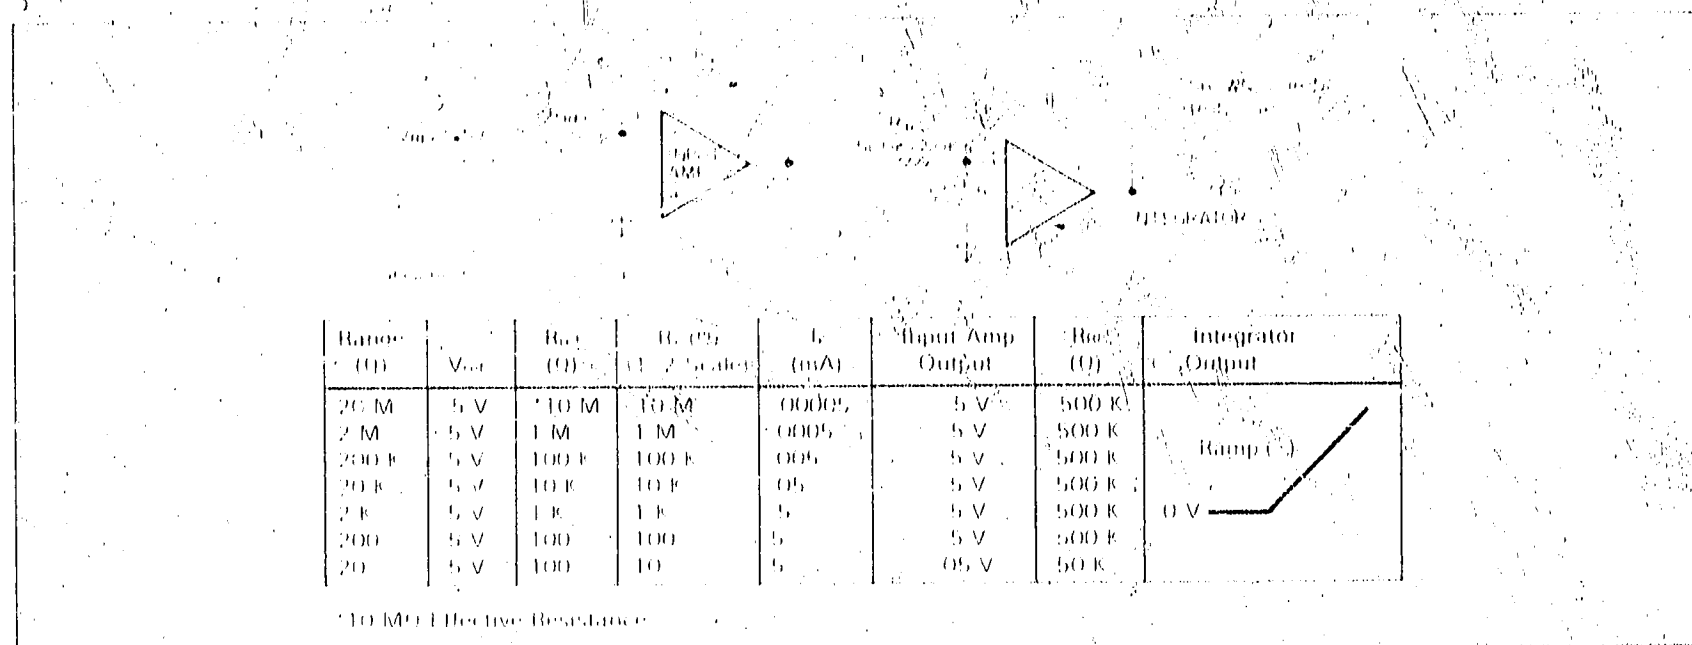

Figure 8-7. Ohm Gain.
8-36. U8 functions as a low impedance voltage source to R₁₀₁. It outputs 5 V in all ohmmeter ranges. This output voltage is dropped across R₁₀₁ to a virtual ground provided by the Input Amplifier (C). The resultant current is the current thru the unknown resistance (R_x). Figure 8-7 further simplifies the gain configuration combining the Input Amplifier, associated compensation, and protection circuitry as an inverting Op Amp with R₁₀₁ as the input resistor and R₁₀₂ as the feedback resistor. The output of the Input Amplifier is the run up voltage to the A to D Converter.